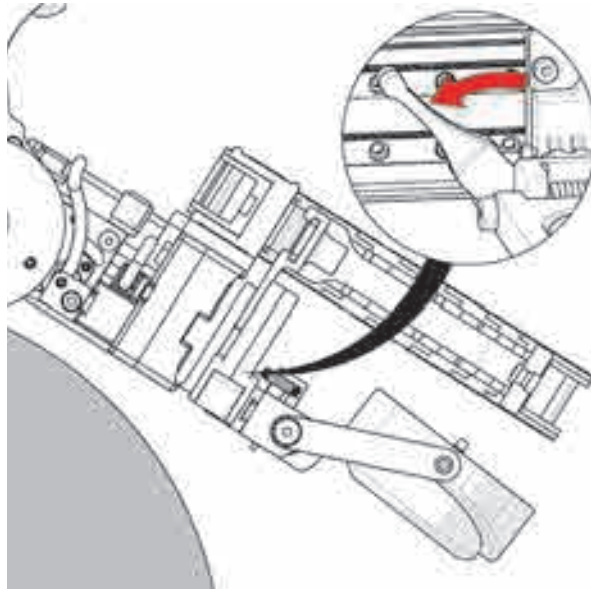

Figure 4-99 Adjust raster arm pivot nose
9. Release the raster arm pivot nose latch (see Figure 4-99 on page 164).